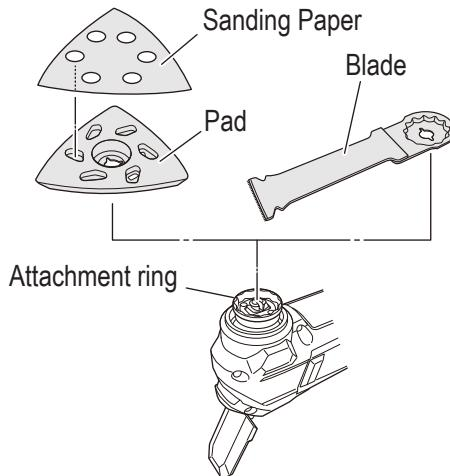

Fig. 10
(2) Attach the application tool to the attachment ring. The angle of attachment for the application tool can be set in 30° increments. (Fig. 10)
(4) Align the holes when sticking the sanding paper to the sanding pad. (Fig. 10)